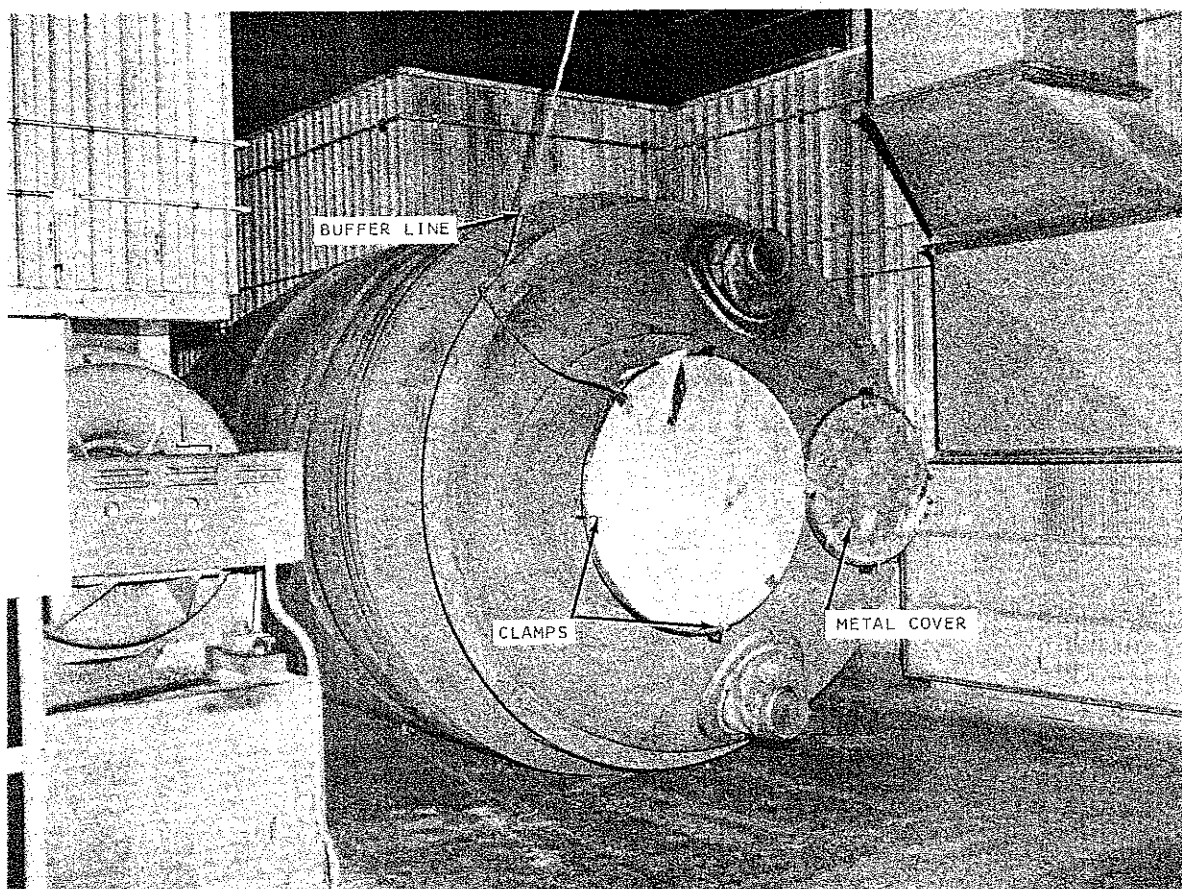

FIG. 3. TREATING CONVERTER
- c. Install metal cover with green tape over each flanged converter nozzle if converter is going to retubing area. Secure each cover in place with "C" clamps. If converter components are reusable, treat with a buffer (Fig. 3). Refer to KDG-500, Part 4-A1 and KY-D-3490.